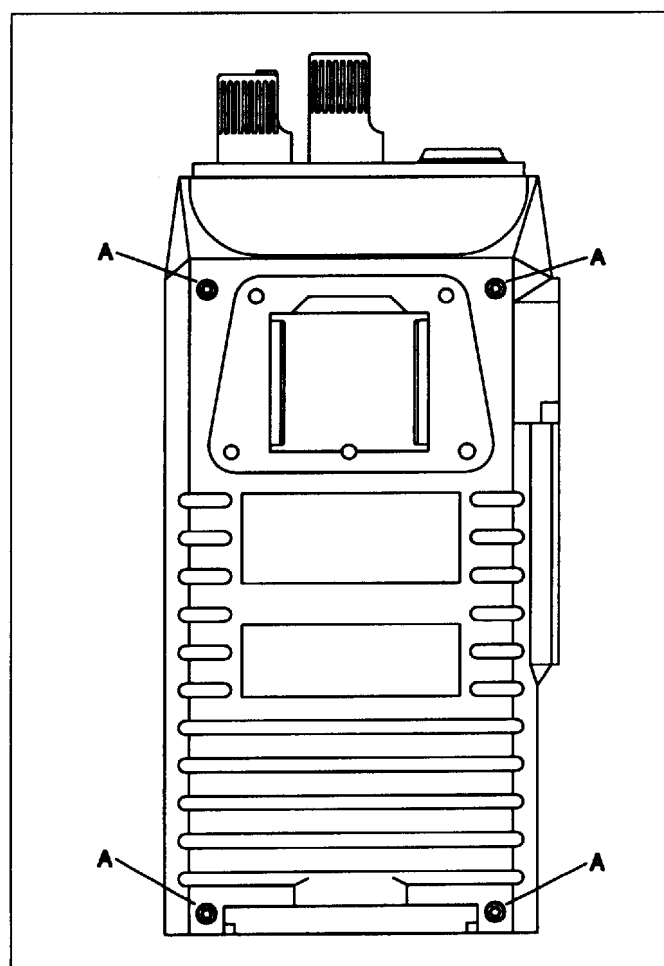

Figure 1 - Front and Rear Cover Separation
In the event internal service is required, disassemble the radio in accordance with the following outlined steps. See Figures 1 - 5.
Lay the radio face down and loosen the four (4) Torx® screws (A) on the back of the radio; complete screw removal is not necessary. See Figure 1. Separate the covers by carefully lifting the Rear Cover Assembly straight-up to avoid bending the connector pins between the RF and Control Boards.